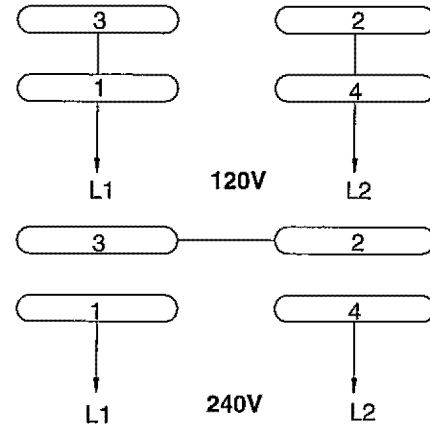

Figure 8 - Wiring Schematic
- See wiring diagram (Figure 8) for wiring instructions.